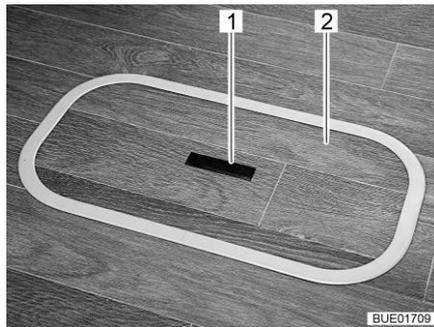
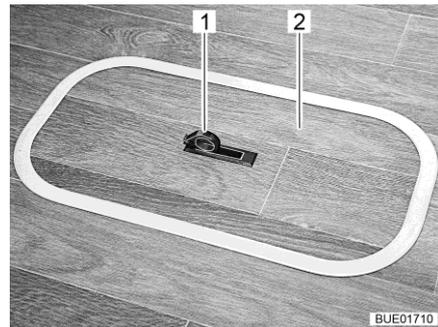

Fig. 90 Floor compartment cover
Fig. 91 Floor compartment cover
- Push one side of the grip plate (Fig. 90,1) downwards. The handle (Fig. 91,1) swivels upwards.
- Remove the cover (Fig. 90,2 or Fig. 91,2) upwards.